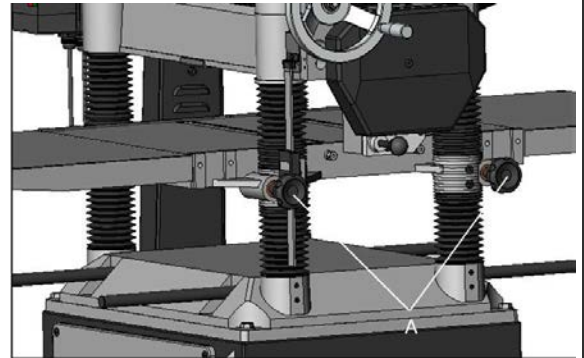

Fig. 5
Before adjusting the table upward, or downward; loosen nut (A), after positioning to required position, tighten nut (A) again to hold in position. (Fig. 5)